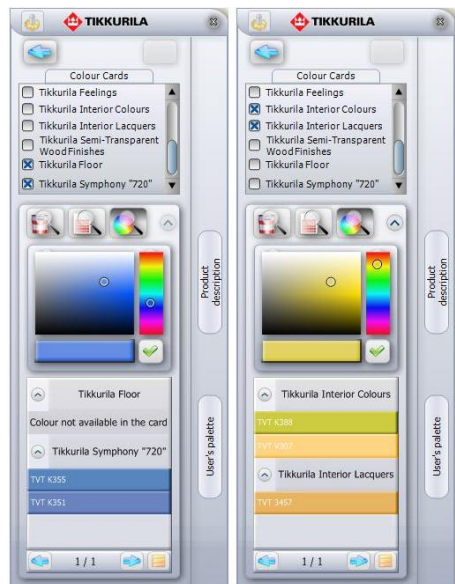

Fig. 11 - the results of Search by the colour procedure
When the **Search by the colour** option is chosen, in the part of the dialog box below the three icons determining the type of selection, the square colour palette will appear. In this palette the colour with the wanted shade and intensity should be indicated, in the same way as it has been described in point 3 (Fig. 11).
- In each **Card** there may be a few similar colours available – they will all be listed (Fig. 11);